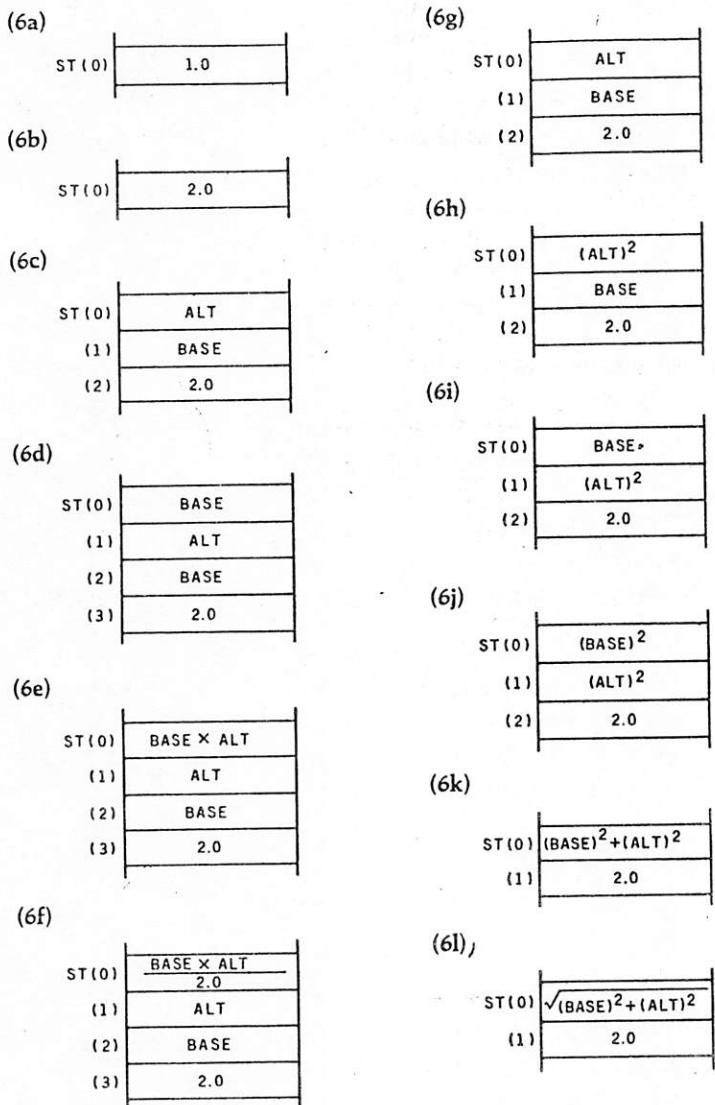

Figure 6: The status of the NPX stack during operation of the program in listing 1.
The following application of the 8087 uses an Intellec Series III Microcomputer Development System and Intel's 8087 software emulator (see listing 1). The program takes the base and altitude of a right triangle, which are stored in memory as two fields of a structure called TRIANGLE, and uses this data to calculate the area of the triangle and the length of its hypotenuse. Notice that I define the fields of the structure as double words (DD). This allows me to define the variables in the Short Real format. I will discuss the program using both the listing and a chart in figure 6 that tracks the status of the NPX's stack as references. When I refer to the chart, I use lowercase letters in parentheses.